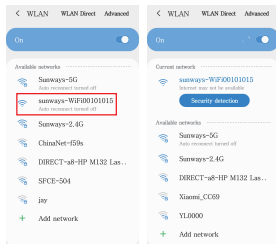

Figure 15
D. WiFi connection succeeded as shown in Figure 15.